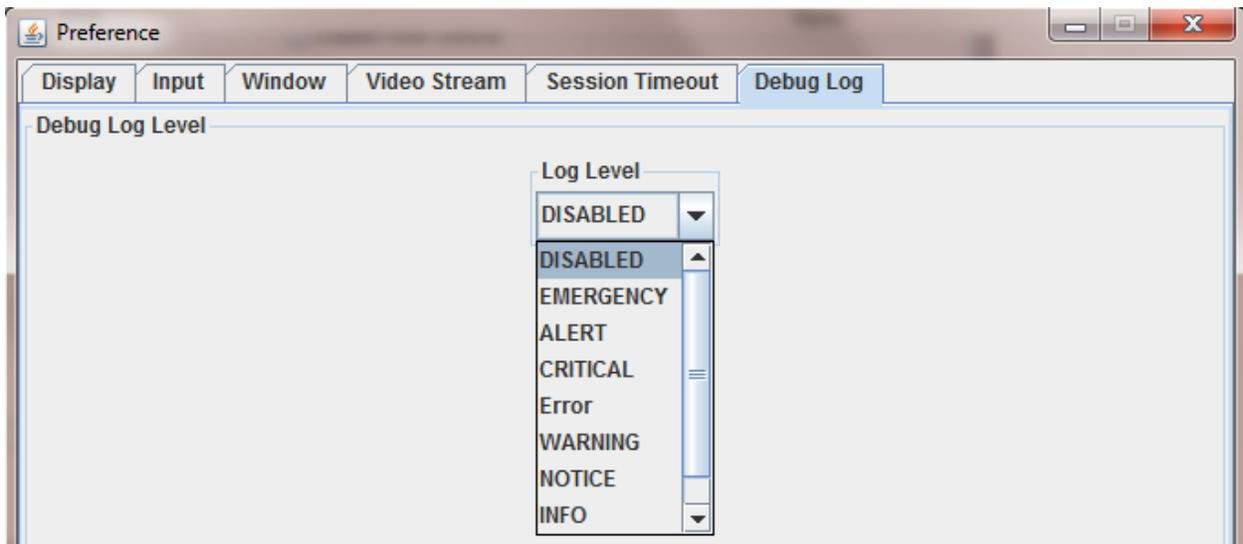

Figure 28. Remote Console Debug Log Settings
- **Debug Log** (Figure 28) – Select a log level of Disabled, Emergency, Alert, Critical, Error, Warning, Notice, Info, or Debug. Table 4 defines each log level. The debug level is only for Java viewers and log messages will appear on the Java console, if enabled.